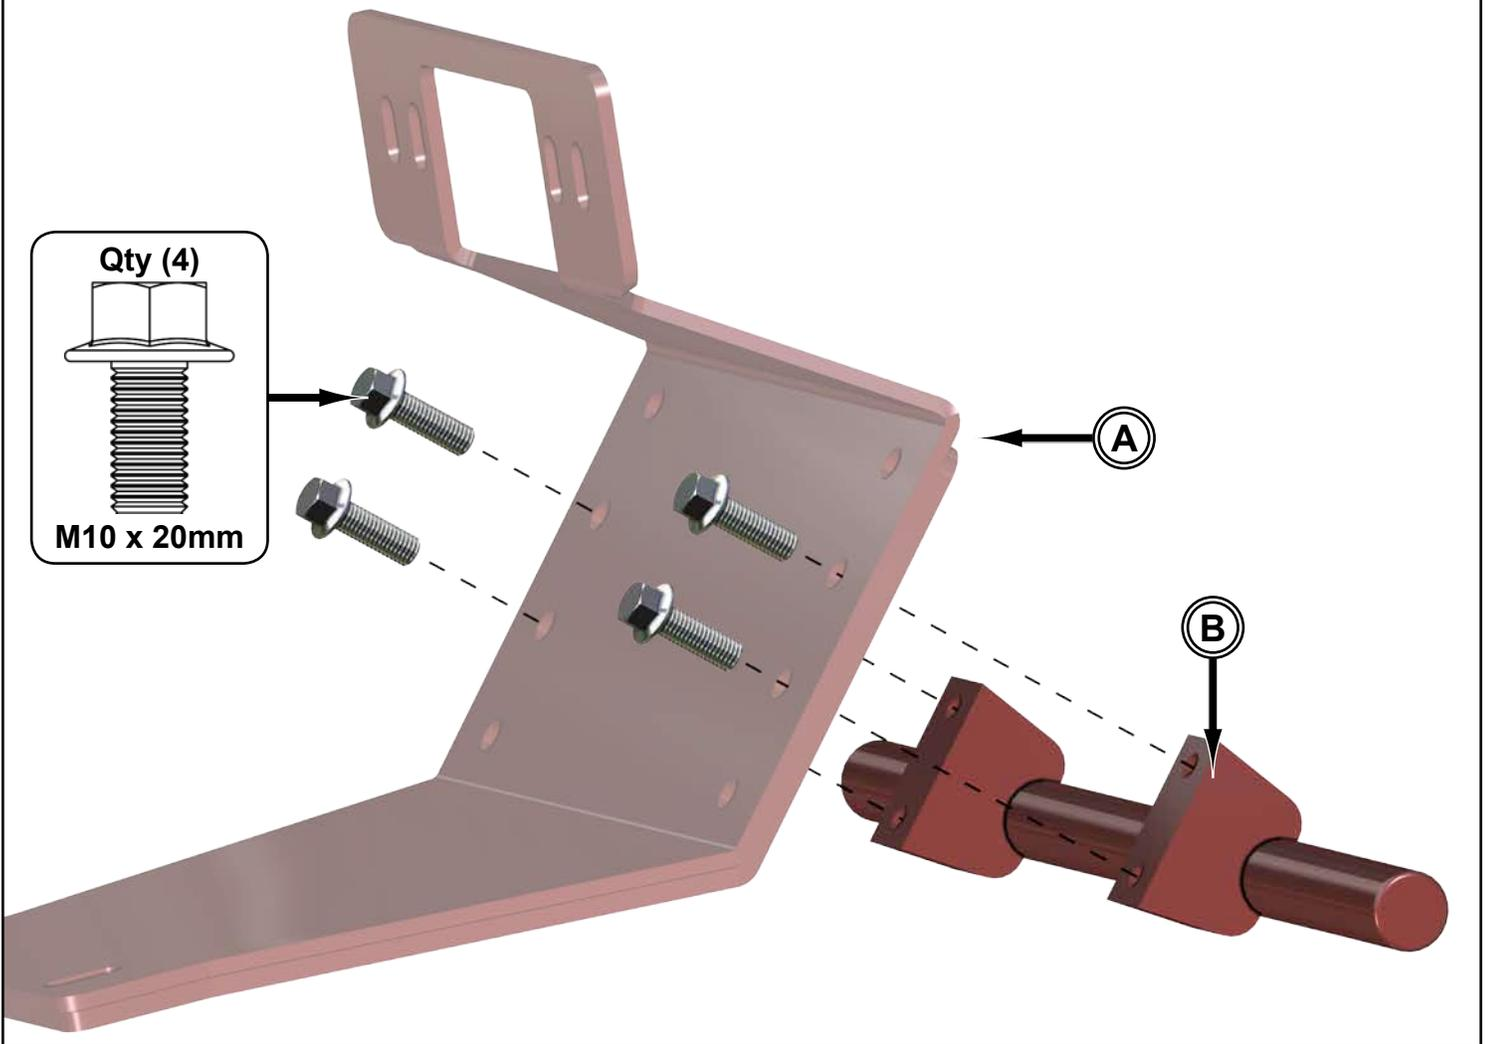

Fig. 3
3. Install Roller Brackets (C)(D) and Front Bar (B) to Mount Plate (A) with M10-1.50 x 30mm Lg. FHCS and M10-1.50 Nylock Nuts. See Fig. 3.